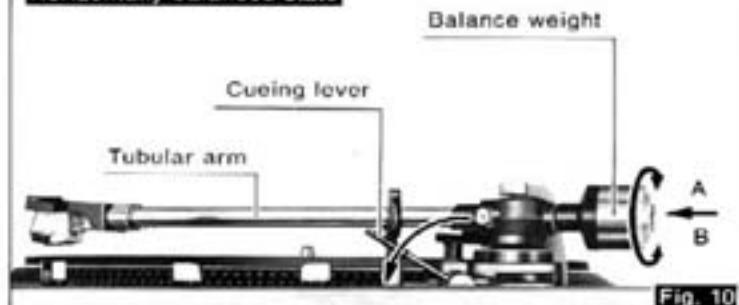

Fig. 10
4. Turn the entire balance weight clockwise (indicated by the arrow "A") or counterclockwise (indicated by the arrow "B") until the tonearm is approximately balanced horizontally. (See Fig. 10).
- 3) Ensure that the cueing lever is in the lowered position as shown in Fig. 10.